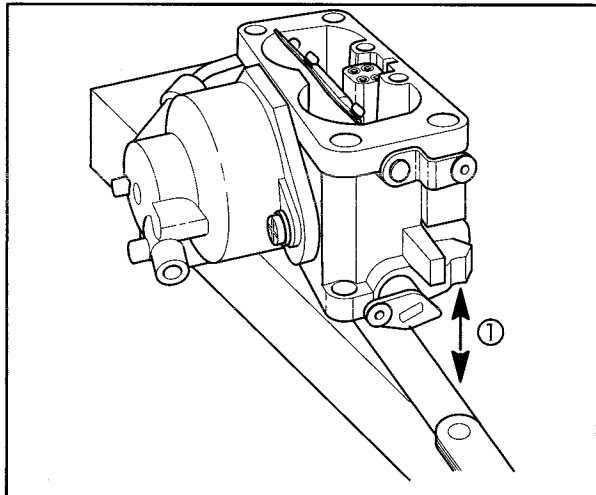

Fig. 115
1. Lay carburetor on flat surface and check throttle and choke shaft clearance as shown in Fig. 115.